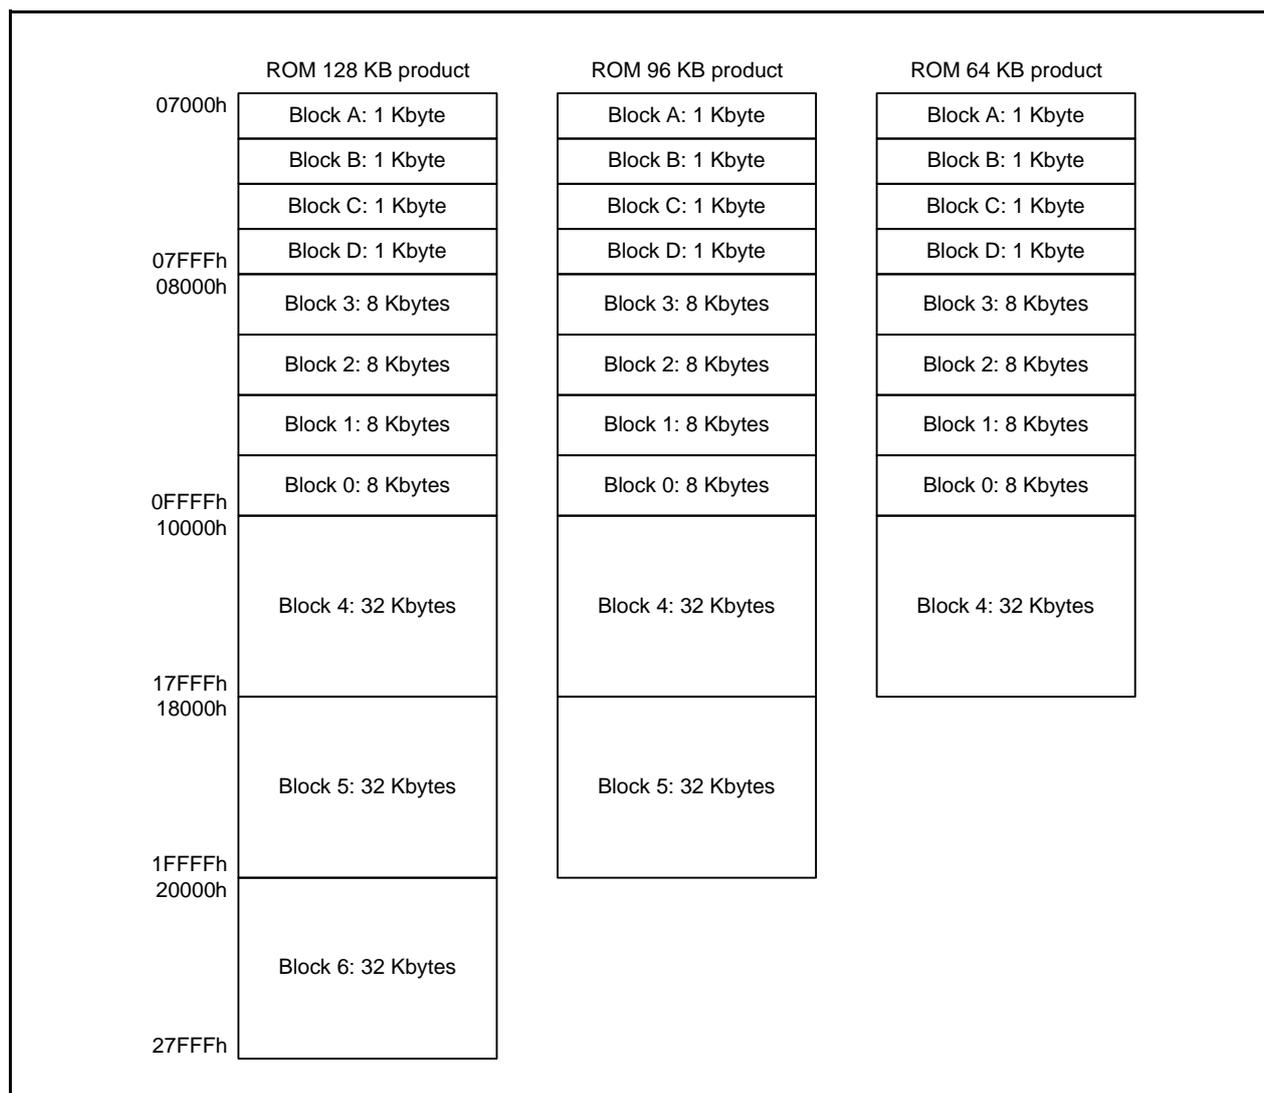

Figure 26.1 R8C/38T-A Group Flash Memory Block Diagram
2. The number of blocks and block division vary with the MCU. Refer to **Figure 26.1** for details.
Figure 26.1 shows the R8C/38T-A Group Flash Memory Block Diagram.